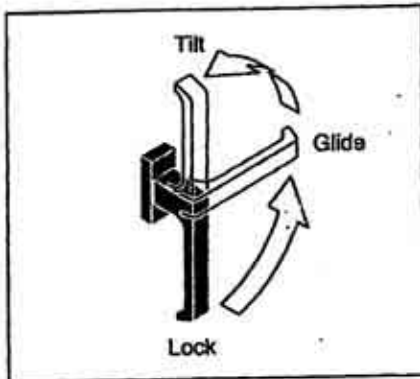

Figure 5-7. How to operate the Handle
- 3.1 Rotate the SA-FE-Handle 90° to the Glide position. Gently pull the SA-FE-Handle towards you. The sash swings out on its stay arms. Gently pull the SA-FE-Handle to the side and open the sash completely. See fig. 5-7.